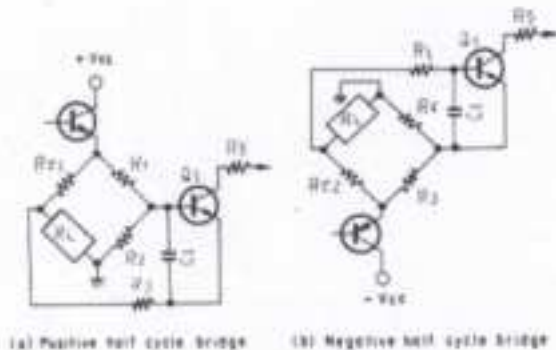

Fig. 6-23 Overload Detector Circuit
The overload detector circuit incorporates the load (RL) in one side of a Wheatstone bridge (see Fig. 6-23). The base and emitter of a sensing transistor ( $Q_1$ ) are connected to the opposite corners of the bridge, so if RL decreases,  $Q_1$  will become forward biased. If RL falls below a prescribed value,  $Q_1$  will turn on, thereby passing a current through  $R_3$ ,  $D_1$ , and  $R_4$ . Due to the voltage difference generated across  $R_4$ ,  $Q_2$  will become forward biased, and consequently turn on. A DC voltage will then be applied to pin no.4, turning  $S_2$  on, and resulting in the rapid discharge of  $C_1$ , and  $S_1$  and  $Q_r$  both turning off. The relay will again be released to disconnect the output circuit.